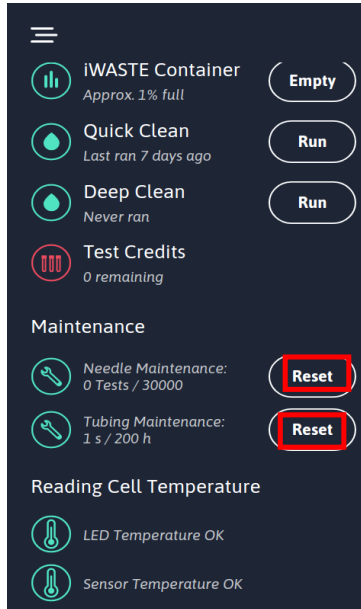

Figure 32
37. On the Maintenance page, press the “Reset” Button under Needle Maintenance and Tubing Maintenance as highlighted. This is going to reset the Needle and Tubing cycle to 0 hours. See Figure 32.